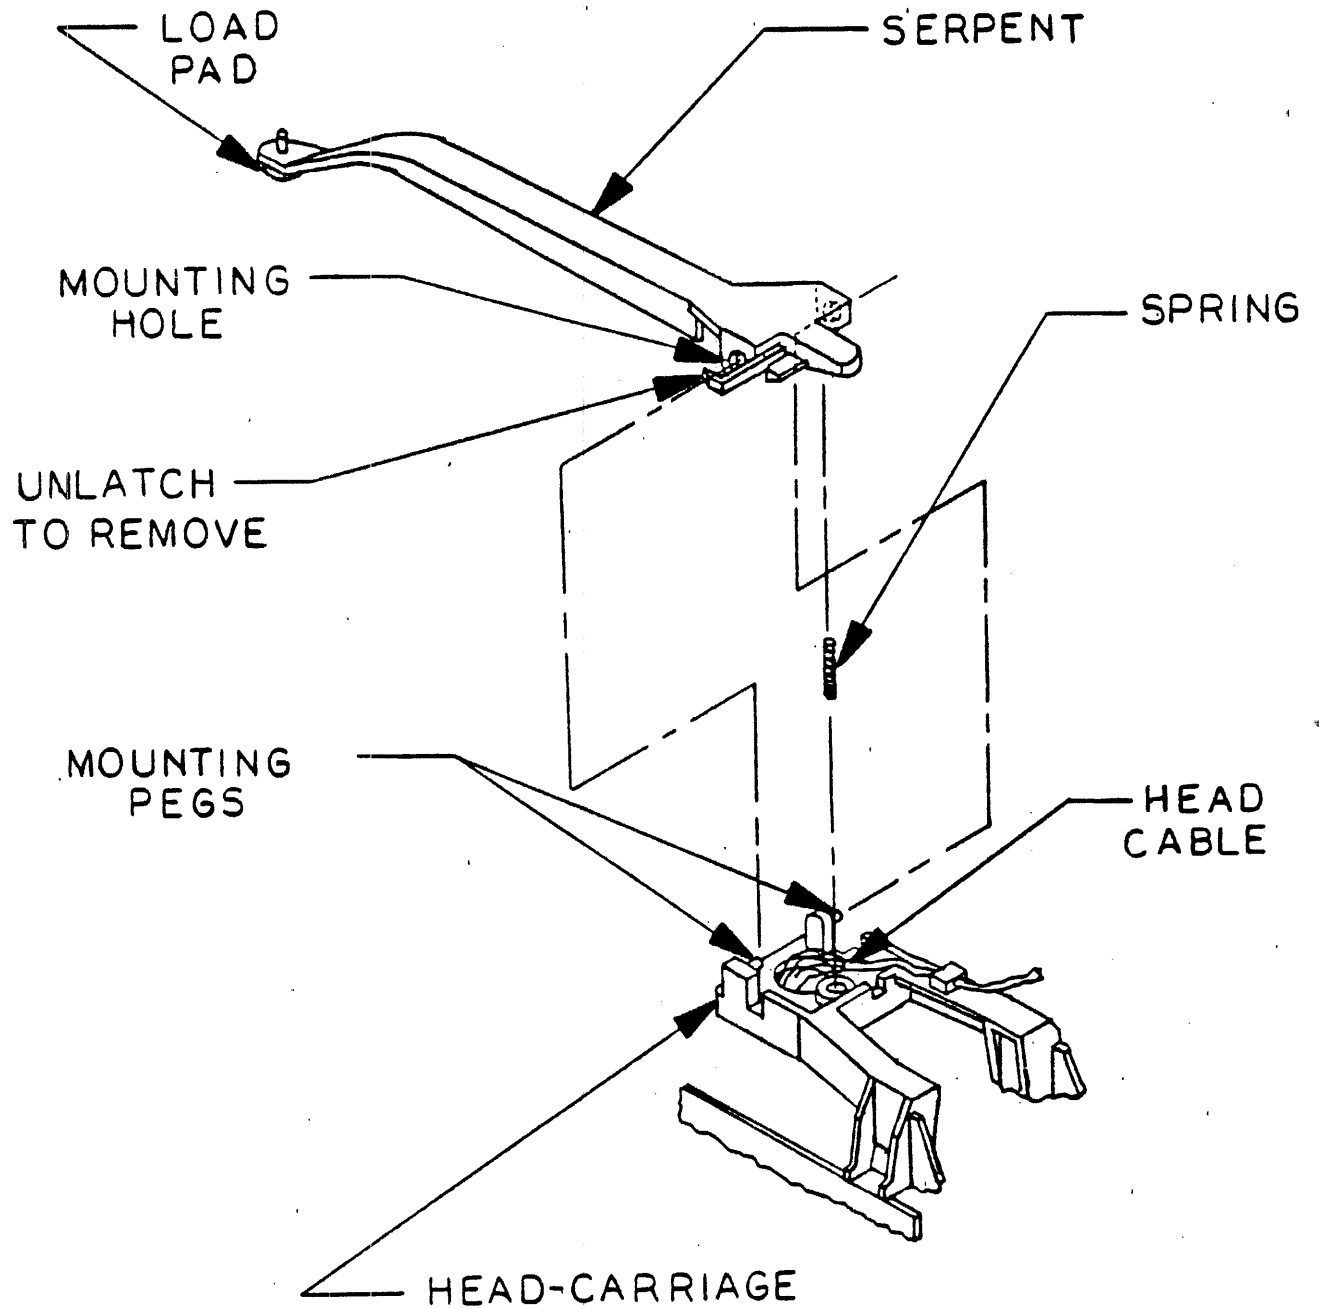

FIGURE 4. THE REMOVAL OF THE SERPENT FROM THE HEAD CARRIAGE.
- 7.5.1 Detach the serpent from the head-carriage by carefully unlatching the serpent and sliding it off its mounting pegs. (See Fig. 4.) (Do not bend or lose the spring as you remove the serpent.) Check the condition of the serpent's load-pad, the alien, and the head cables. If there is any damage to any of these parts, reject the entire head-carriage assembly.